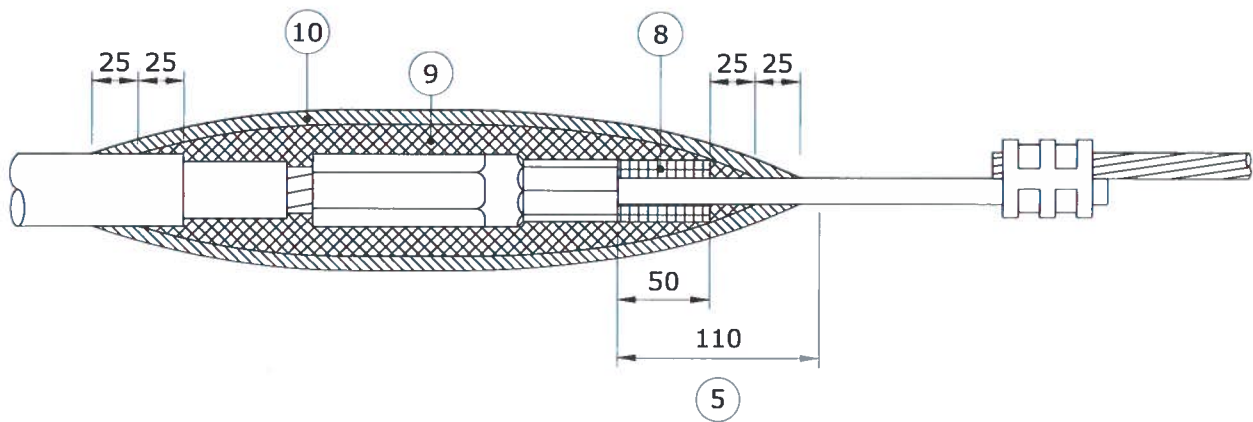

FIGURE 2
- 5 ABRABE ROD PORTION OF ROD CONNECTOR WITH ABRASIVE TAPE AS SHOWN IN FIGURE 2.
- 8 APPLY THE PRECUT STRIP OF RUBBER MASTIC TAPE 1/4 STRETCHED, SHINING SIDE DOWN ONTO THE ROD AS SHOWN IN FIGURE 2.
- 9 APPLY 2 LAYERS OF HALF LAPPED 3/4 STRETCHED SELF AMALGAMATING ETHYLENE PROPYLENE RUBBER TAPE (S.C.# 78 55 23) AS SHOWN IN FIGURE 2.
- 10 APPLY 2 LAYERS OF HALF LAPPED 3/4 STRETCHED COLD WEATHER VINYL TAPE (S.C.# 78 55 98) AS SHOWN IN FIGURE 2.